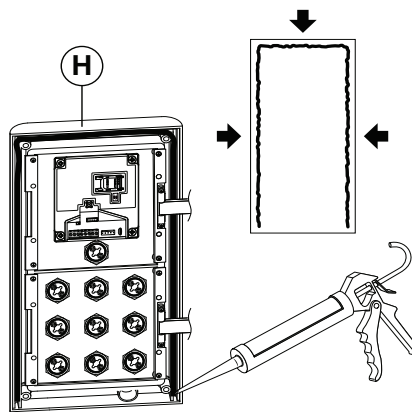

Fig. 62
⚠ In order to prevent water ingress it is highly recommended that a silicon sealant is used between the module support frame (H) and the flush box. The silicon sealant should be used on the left, top and right sides only of the module support frame. Don't use silicon sealant on the bottom side of the module support frame (H) (Fig.62);